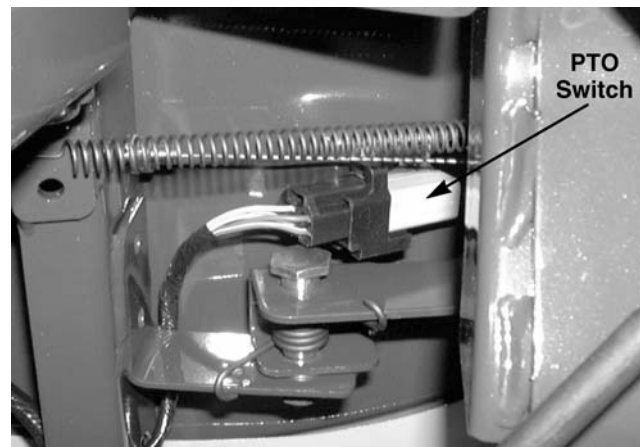

Figure 8-87.
- Locate the PTO switch and remove the wiring harness connector. See Figure 8-87.